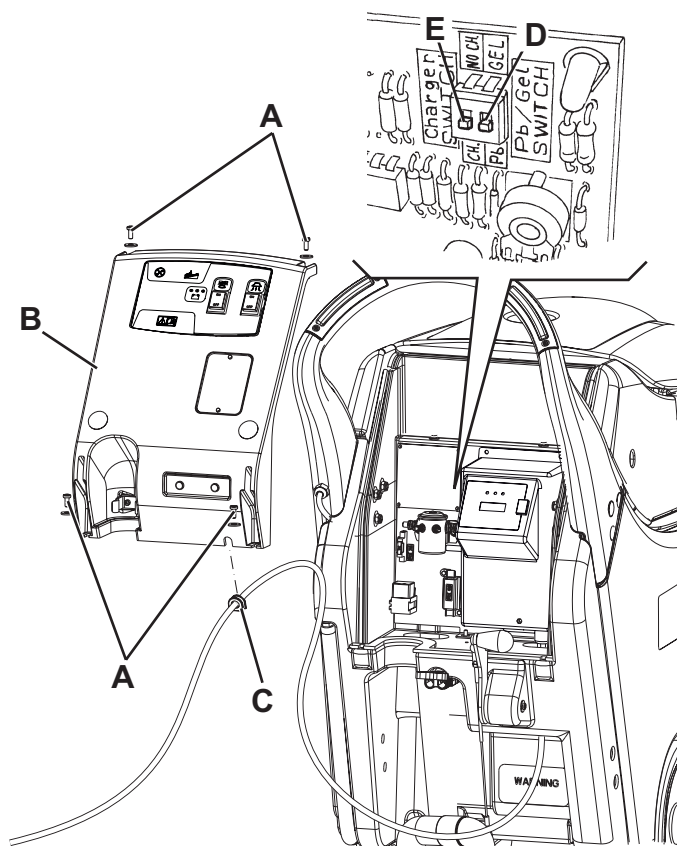

Figure 1
2. Move aside the recovery water drain hose (11).
3. Remove the battery charger cable, if equipped, from the cable holder (5).
4. Remove the screws (A, Fig. 1) and carefully move aside the panel (B) by disengaging the grommet (C) from its housing on the panel (B).
5. Turn the microswitch (D) to WET position.